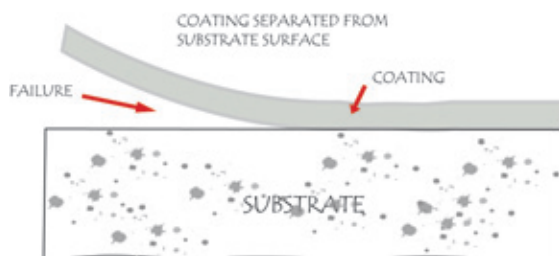
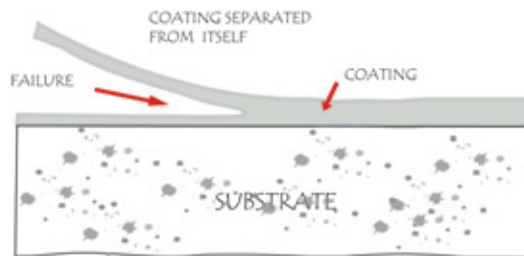
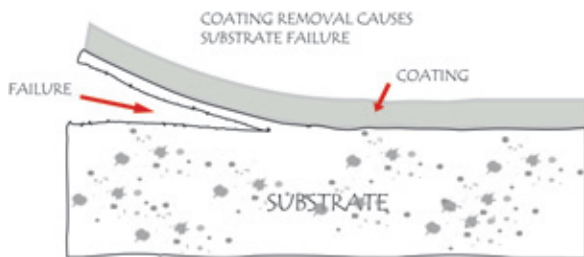

Fig. 4a: Adhesive failure
Fig. 4b: Cohesive Failure
Fig. 4c: Substrate surface failure
with a consistent force (Fig. 4a); 2 to 5 pounds of force indicates sufficient adhesive strength to provide for excellent performance in most coating applications. Mastics and sealers used at metal-roof seams and areas of extreme roof movement will typically need to exhibit much higher forces of adhesion than a general field coating.
4. Separation and failure begins at a defect, a weakness, or a region of high stress; like a chain, failure occurs at the weakest point. Failure may occur at the substrate interface with the coating (Fig. 4a, adhesive failure), within the coating (Fig. 4b, cohesive failure), or within the substrate (Fig. 4c).